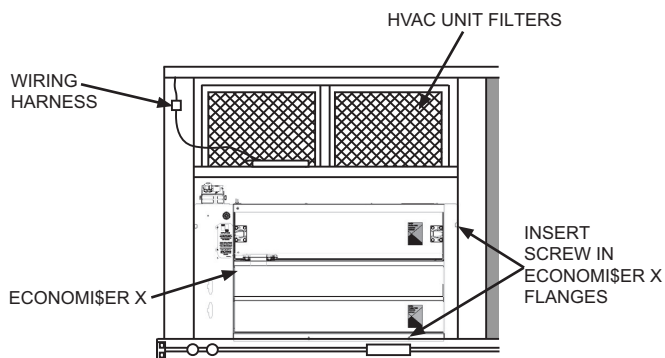

Fig. 3 — EconoMiSer® X Assembly Installed on HVAC Unit (CRECOMZR067A01 Shown)
4. Slide the EconoMiSer X assembly into the rooftop unit. See Fig. 3.
5. Ensure EconoMiSer X assembly is square (tolerance $\pm 1/32$ inch). Screw the EconoMiSer X to the unit along both side flanges and bottom flange. See Fig. 3.